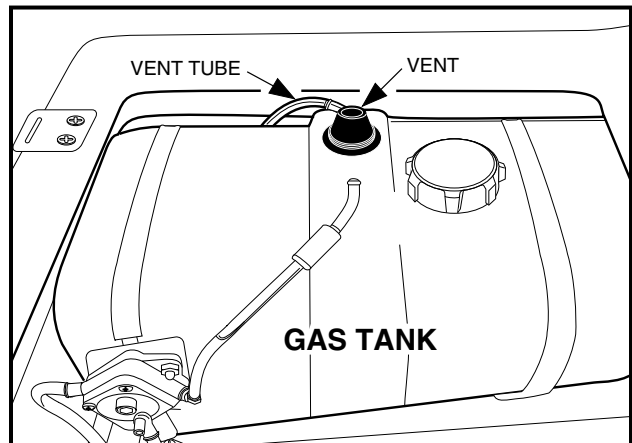

FIGURE 20
- **IF THE VEHICLE HAS AN ALL-WEATHER ENCLOSURE INSTALLED, THE GAS TANK MUST BE PROPERLY VENTED AS SHOWN (FIGURE 20).**